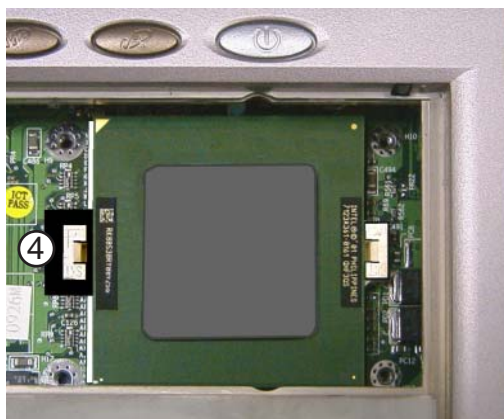

figure 2-11b
5. Remove the CPU tool, place the CPU lock on the CLOSE slot of the socket (figure 2-11b).